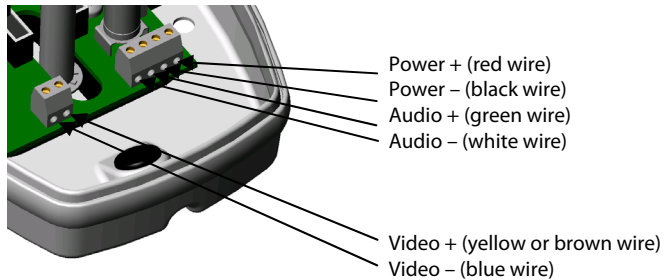

Figure 4
- 3 Your camera is factory assembled with an external video/audio/power cable. If necessary, this cable can be removed for easier installation. Reattach the video, audio, and power wires to the terminal blocks on the main circuit board. See Figure 4.